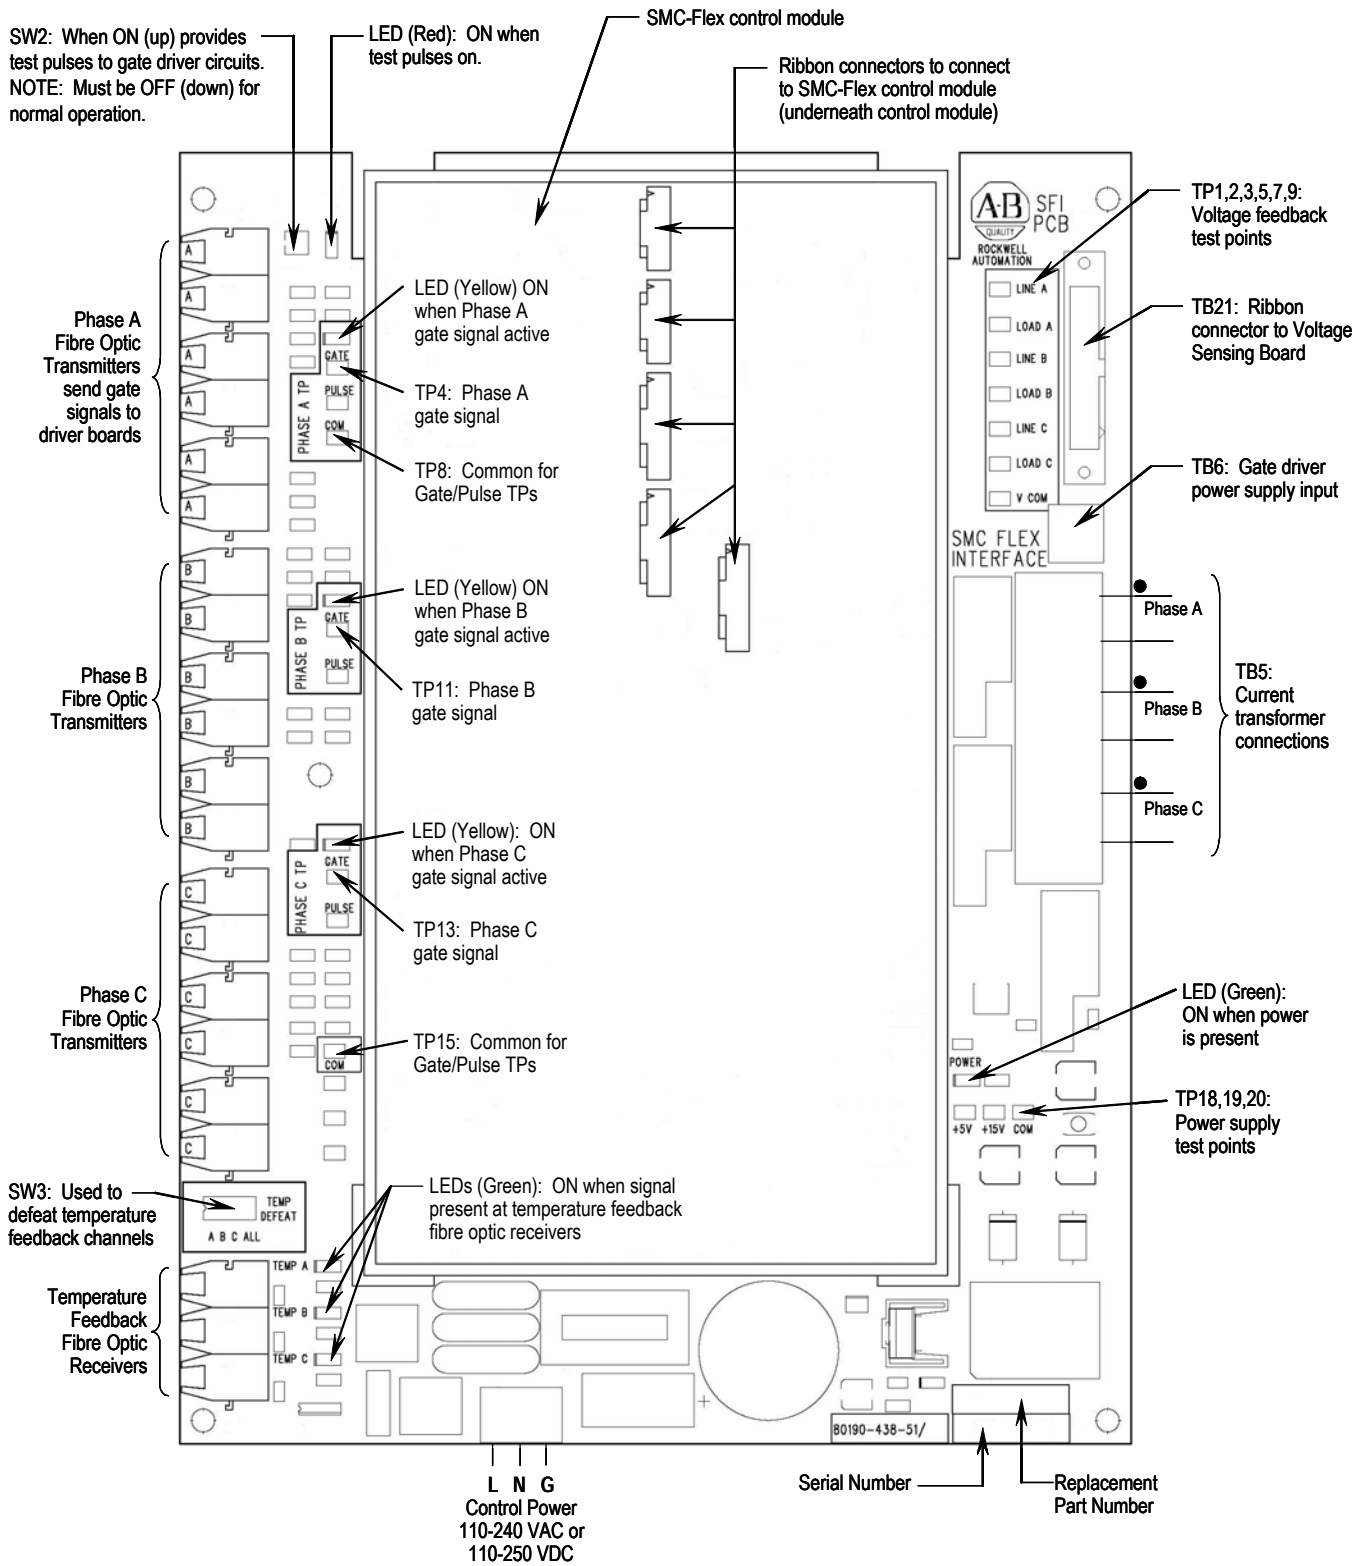

Figure 3.2 – Connection and Test Information for Interface Board
4. Locate the SMC-Flex Interface board in the control section (See Figures 3.2 and 3.3). This circuit board has the control module mounted on it. Locate the switch labeled **SW2** at the upper left corner of the board. Close the switch by sliding the toggle up. This starts a pulse generator to supply simulated gate-pulse signals via fibre optic cables to the gate driver boards. A red LED beside the switch, and the three yellow LEDs on the left side of the Interface board should be lit. (**Note:** They may appear dim, depending on ambient light conditions).